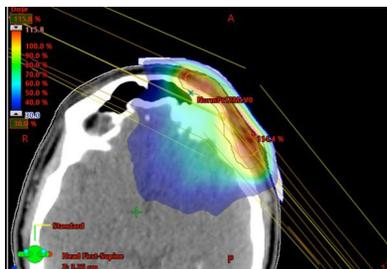

Figure 2A. Treatment plan using VMAT was rejected due to splay of intermediate dose.
- MEB plans created in Adaptiiv’s software demonstrate superior sparing of healthy tissues and distal OARs while significantly reducing hotspots compared to photon IMRT delivery, i.e. VMAT (Figures 2A, 2B, and 2C).